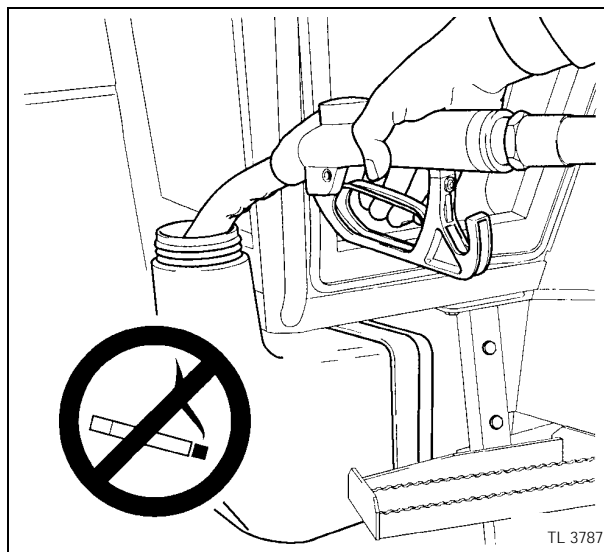

Fig. 11
- **DO NOT** smoke while refuelling the tractor. Keep any type of open flame away (Fig. 11).